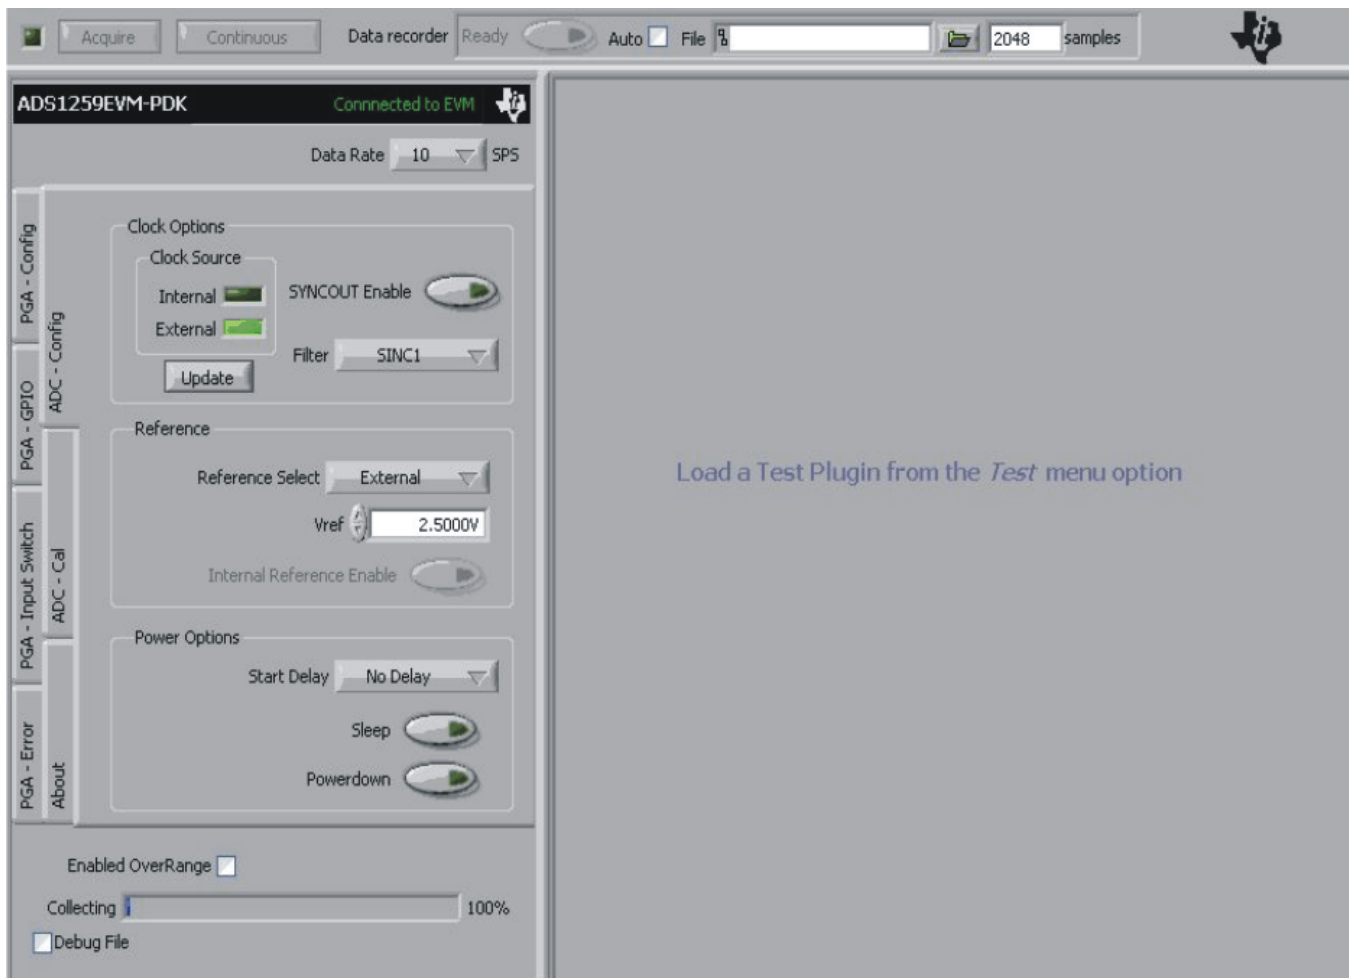

Figure 23. ADS1259EVM-PDK Plug-In Display Window
2. Select *ADS1259EVM* from the EVM drop-down menu. The ADS1259EVM-PDK plug-in appears in the left pane, as shown in Figure 23.